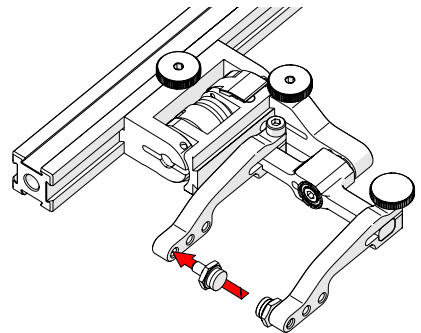

Fig. 117 - Place pivot buttons
4. Using the supplied 3/8 in wrench, place the pivot buttons (Fig. 117) farthest from the yoke for maximum wedge clearance.